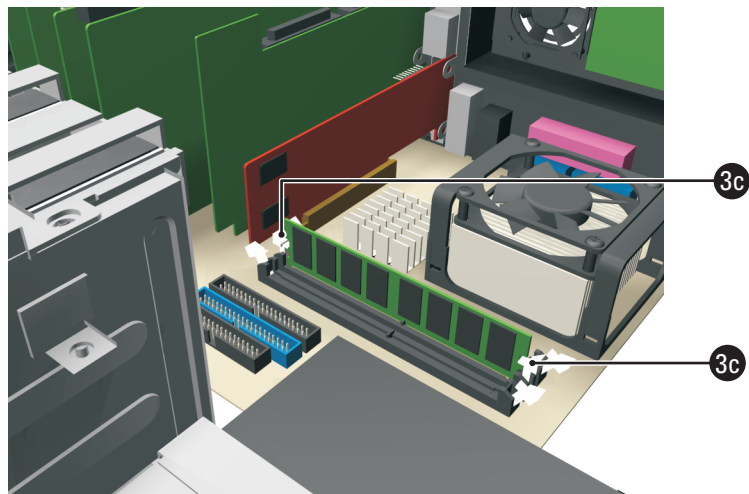

Figure 9. Seating and Securing the DIMM Module
- c. Carefully, but firmly, push the DIMM module into the empty socket until it is properly seated. The module is properly seated when the retaining clips snap back into place. Refer to Figure 9.